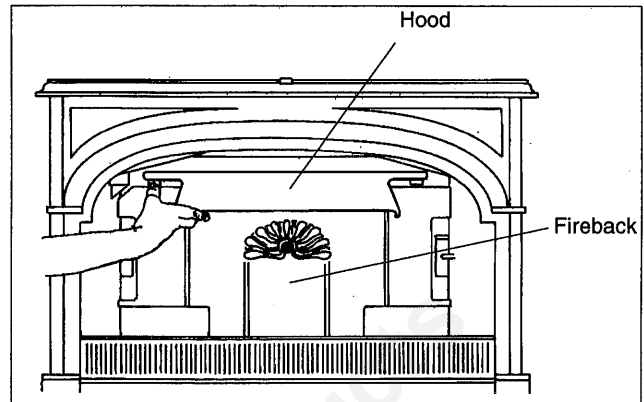

Fig. 49. Release the hood by lifting its bottom edge and sliding it to one side.
1. Release the hood from the fireback by swinging the hood upward and then sliding it to either side, as in Fig. 49.